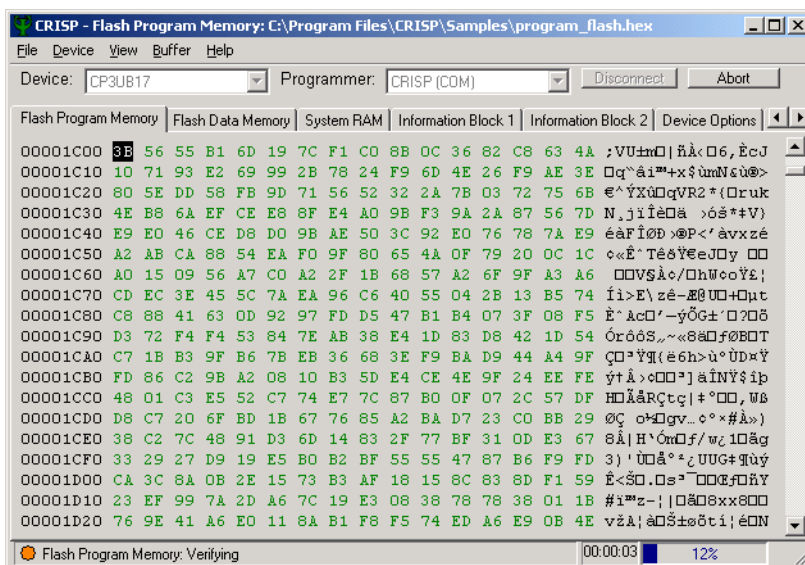

Figure 5-13. CRISP Status Bar During Verification
2. **Monitor Verification Status.** During this process the status bar should look as shown in Figure 5-13.